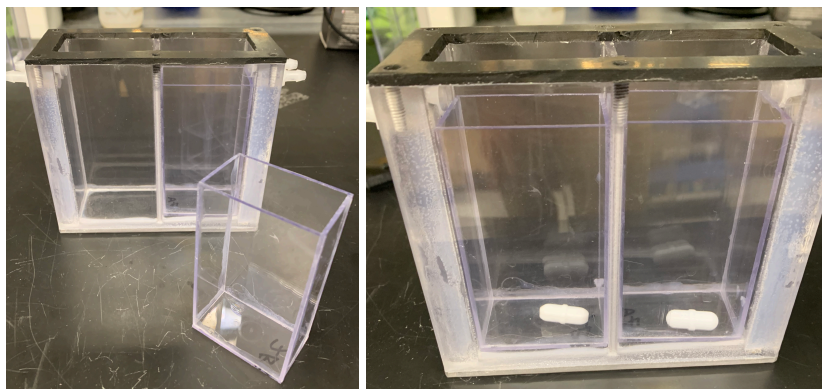

Fig. 1. View of the MRM with the MRM Insert (left) and Stir Bars (right) placed into the bottom.
1. Place the MRM and a Fluidics Package onto the bench next to the BaroFuse. The hemostats (3), Stir Bars (2), and forceps should already be located in the Tool Tray.
2. Place a clean MRM Insert on each side of the MRM. Place a Stir Bar into each side of the MRM (See Fig. 1).